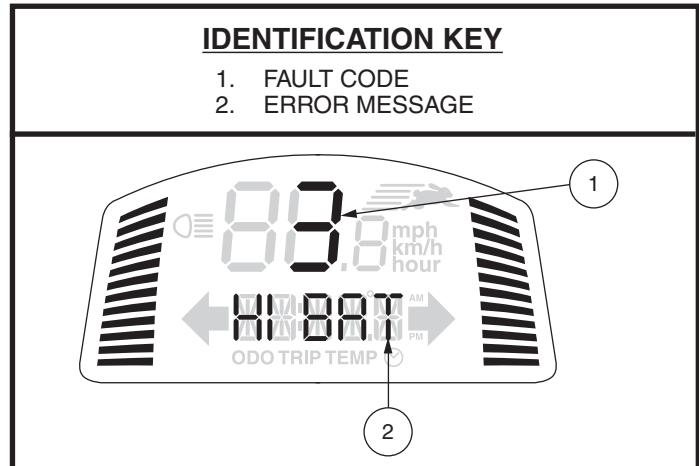

Figure 24. Fault Code Display
1. A diagnostic fault code and error message will be displayed on your LCD screen (**see figure 24**), **OR**